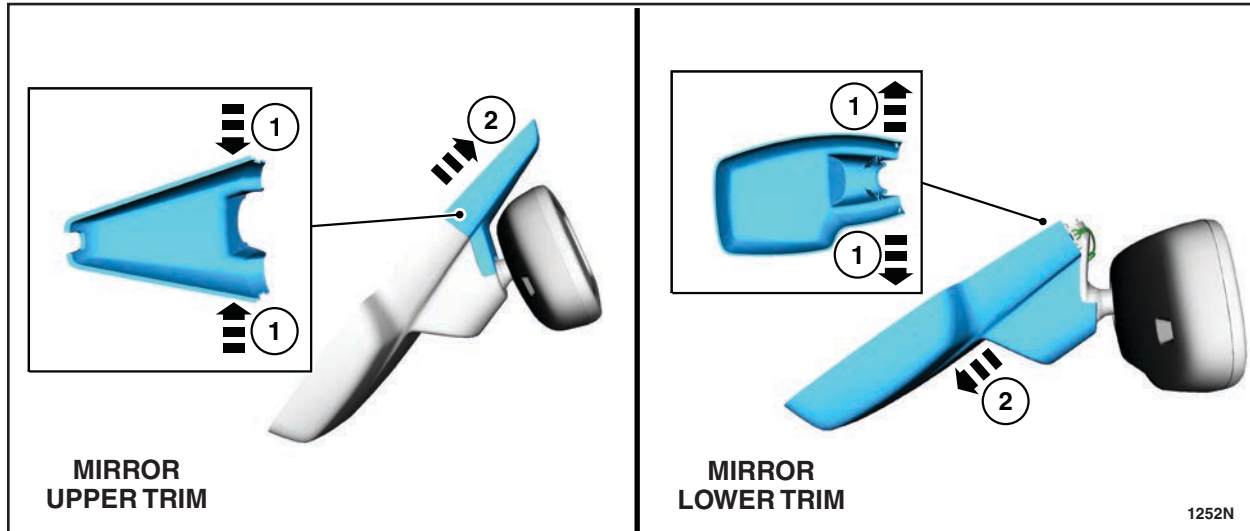

FIGURE 18
29. If equipped, remove the rear view mirror trim. See Figure 18.
8. If equipped, install the rear view mirror trim. See Figure 18.